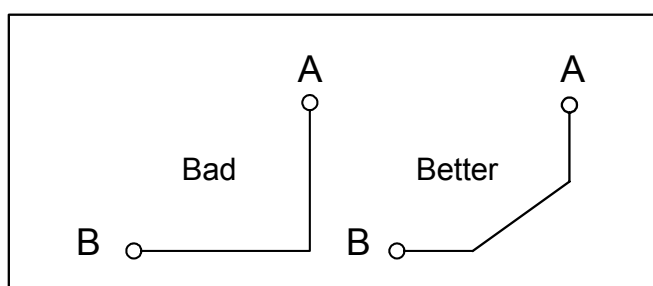

Figure 1. Signal Trace Angles
- Ninety-degree trace angles should be avoided. We recommend that the traces turn at 45° angles as shown in Figure 1. Sharp edges may add unexpected parasitic effects into the circuitry. Reducing the trace length will reduce trace inductance during quick energy bursts
- Ninety-degree trace corners should be avoided. We recommend that the traces turn at 45° angles as shown in Figure 1, page 4. Sharp edges may add unexpected parasitic effects into the circuitry. Reducing the trace length will reduce trace inductance during quick energy bursts